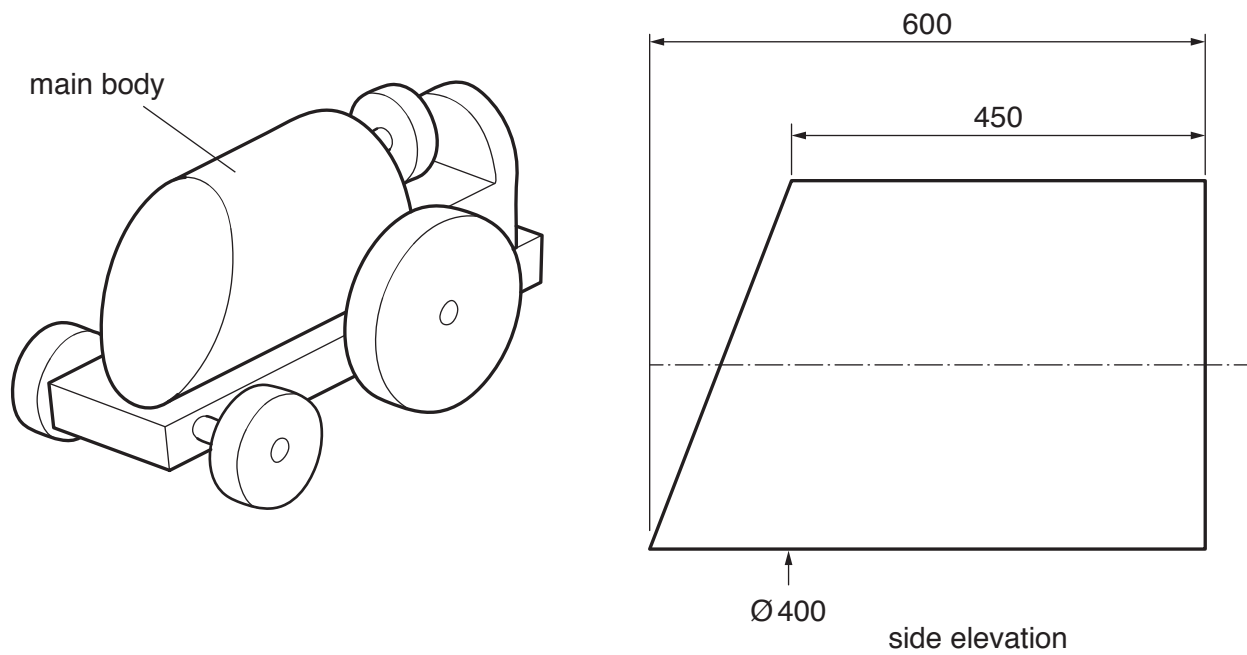

Fig. 9.1
- 9 Fig. 9.1 shows a prototype model for a toy tractor and details of the main body.